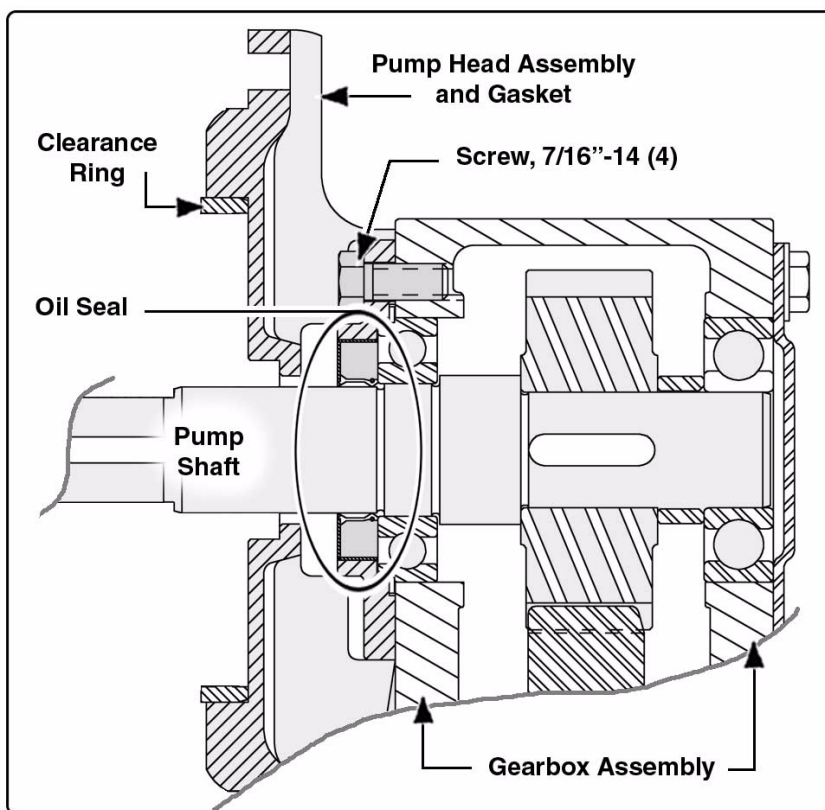

Figure 6a-2: Pump Shaft Oil Seal Replacement
2. Remove the four (4) 7/16"-14 screws securing the pump head to the gearbox. (See Figure 6a-2: "Pump Shaft Oil Seal Replacement," on page 82.)